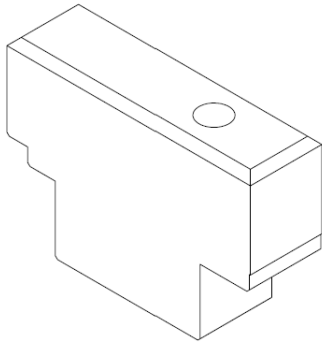

Figure 10 (A01204)
3. Locate all assembly keys and brackets. Verify that the correct quantity and type of keys and brackets have been supplied for each joint type in your unit. See Figures 10, 11, and 12 below for a magnified view of each joint type and the associated hardware. Vertical T-bars meeting the perimeter frame will require a wind load bracket at each end of each vertical T-bar (A00282 and A00286). Horizontal T-bars will utilize two different brackets, one for when the horizontal bar meets a vertical T-bar (A00530), and a second for when the horizontal T-bar meets the perimeter frame (A00280 and A00281). Part A00530 should be pre-installed into the horizontal T-bars prior to assembly using #10 x 3/4" screws.